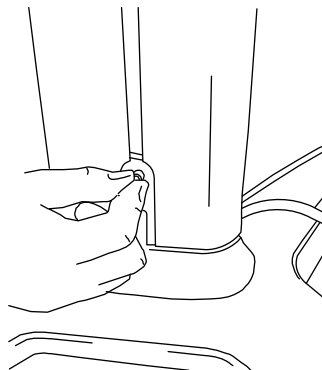
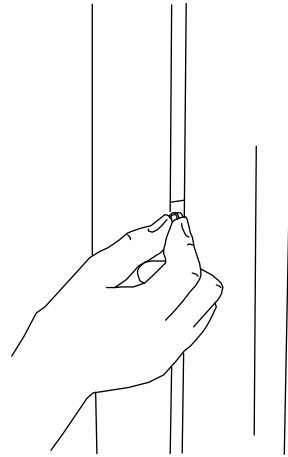

Figure 3 Insert nut plate.
Figure 4 Slide nut plate up column.
- 1 Insert a nut plate into the groove at the lower back of the column, and slide it up the column. See Figure 3 and Figure 4.